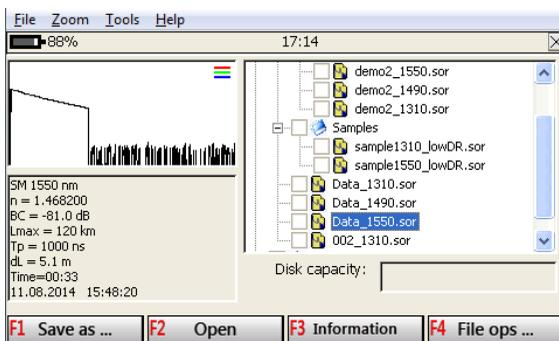
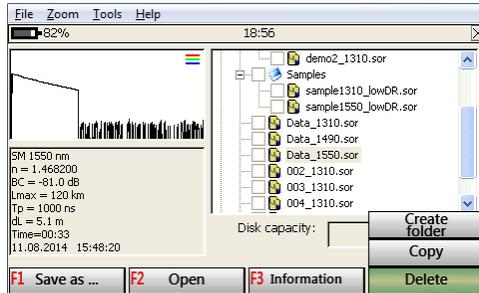

Figure 7.13
Figure 7.17
7.5.1.1 The window “File” shown in Figure 7.13 appears after pressing the button [F3 File] of the main menu.
7.5.2.1 When you press the [F4 File ops...] button in the window “File” (see Figure 7.13), the window shown in Figure 7.17 becomes activated. Here you can look through the information about a trace and delete a file from the memory of the device.